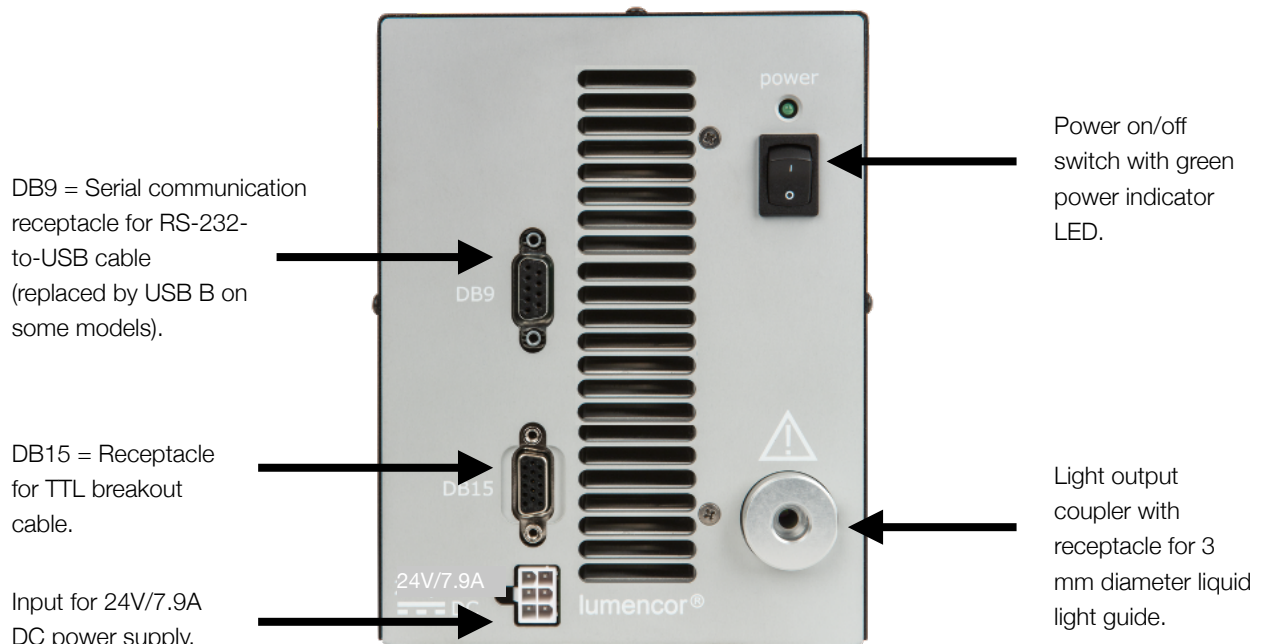

Figure 3. Aura II Light Engine front panel.
AURA II light engines may be configured for light delivery via a 3 mm liquid light guide or an SMA-terminated optical fiber. The output couplers are built into the light engine front panel and are not field-exchangeable (Figure 3). The 3 mm liquid light guide output coupler incorporates an electrical power interlock switch in the back of the receptacle. The liquid light guide must be fully inserted in the receptacle to activate the interlock. Electrical power supply to the light engine cannot be turned on via front panel power switch until the interlock is activated. After fully inserting the liquid light guide, lock it in position using the set screw on the side of the receptacle to prevent inadvertent disconnection of the light guide during use.
The AURA II can be controlled via serial commands delivered through the RS-232 port from the Lumencor light engine control pod accessory (83-10007), a Windows GUI (free download from Lumencor's Control Software site) or via customer-supplied instrumentation control software. Serial commands provide controls for on/off switching and intensity adjustment (0 to 100% in 1% increments) of individual color channels. Refer to Figure 3 for the location of the various connectors. TTL signals delivered to the DB15 connector (Figure 3) provide high speed (10 μs) on/off switching of individual color channels.
4. Connect the USB-to-RS-232 cable from the computer to the DB9 RS-232 port on the AURA II (Figure 3) [1].
7. Check that the liquid light guide is fully inserted and locked in the front panel receptacle (Figure 3).
8. Toggle the power switch on the front panel to the ON position. The green LED above the switch (Figure 3) should light.
1. Connect the USB A port of the light engine control pod accessory (83-10007) to the DB9 port on the AURA II (Figure 3) using the USB-to-RS-232 cable (29-10011) [1]. Connect the USB B port of the control pod to a USB A port on a host computer. For applications not requiring a host computer, connect a DC power supply (5V/ 500mA) to the USB B port. Press and hold the **right** button on the pod until a menu of light engines appears.
The TTL Interface provides users with a faster method of switching color channel outputs on and off. Individual TTL lines are provided for each color channel. These can be conveniently addressed using an accessory BNC breakout cable (Lumencor part no. 29-10015 or 29-10080) connected to the front panel DB15 port (Figure 3). As a safeguard against unintended light output when the inputs are initially connected, the TTL port is disabled and must be enabled by a serial command. To enable the TTL port, establish a serial connection as described in Section 3.1 and click the TTL ON (SFT) button in the GUI. A description of the serial command string for this operation is available on request from Lumencor Technical Support (Section 7). Note that TTL and serial on/off commands have a logical OR relationship. Therefore on/off controls in the GUI or other serial control software must be set in the “OFF” state when using TTL control. TTL polarity (ACTIVE = HIGH or ACTIVE = LOW) is factory set according to order specifications. TTL polarity can be reversed using controls provided in the GUI.